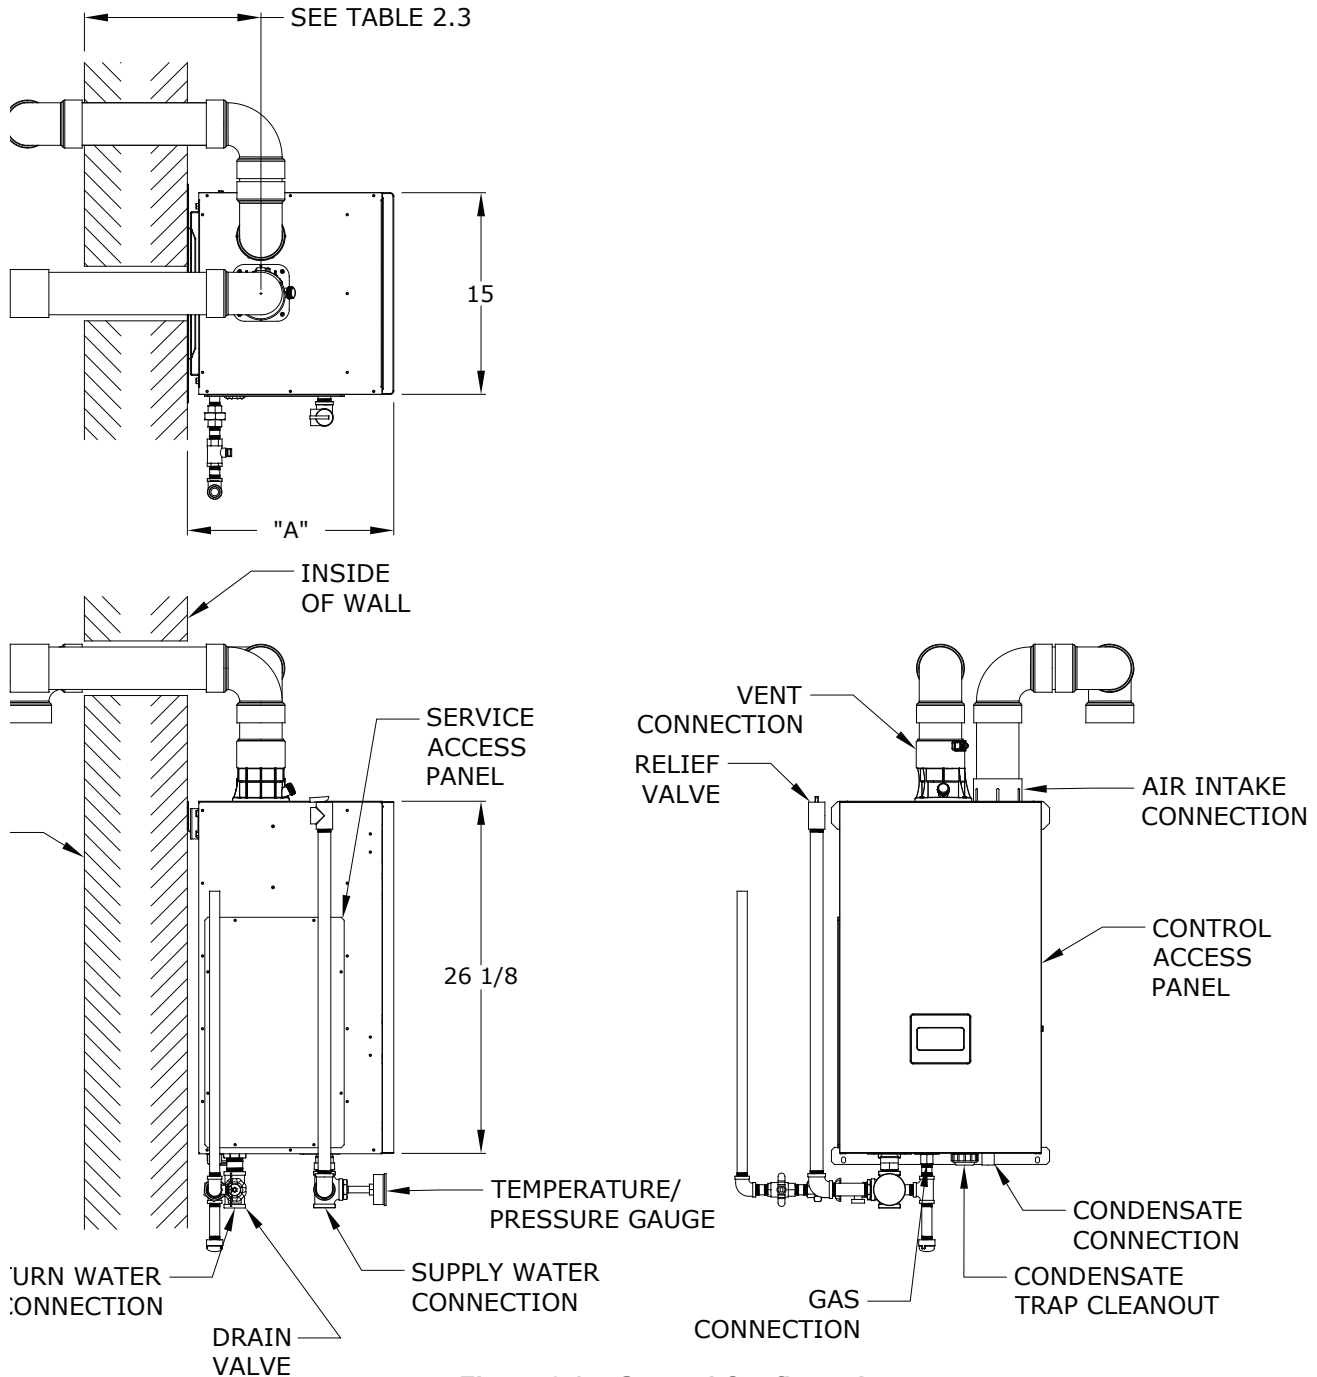

Figure 2.1: General Configuration
- The relief valve and gauge must be installed in the location shown in Figure 2.1 and must be in the same space as the boiler.